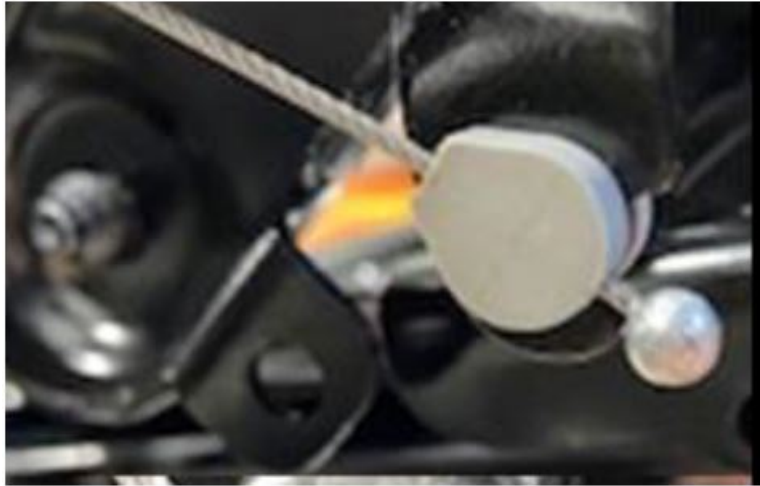

Fig. 11
23. Check if the cable end fitting is properly attached to the release lever (Fig. 11) .